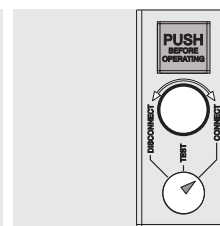

Figure 65
- circuit-breaker in CONNECT position (see Figure 65).